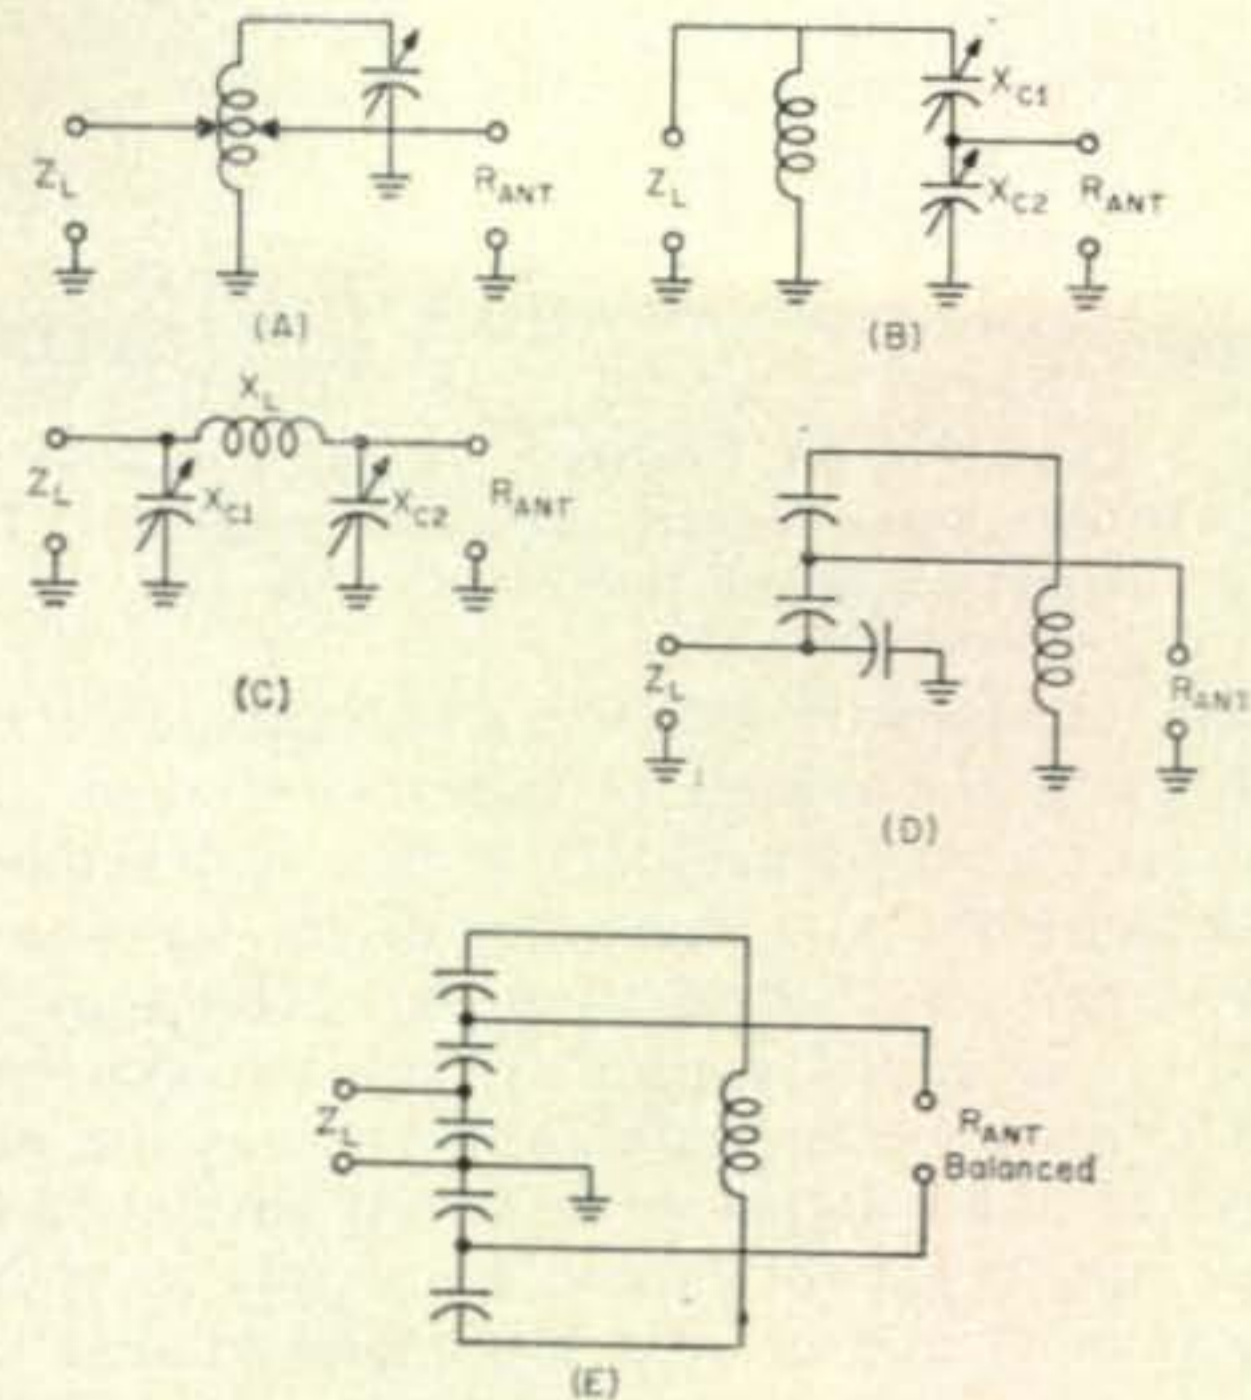

Fig. 2—Various load and impedance transformation circuits described in the text.
Figure 2(A) shows a frequently-encountered method of cancelling antenna reactance. If the load impedance required is not too low, suitable taps on the coil may be found by experimentation. A mathematical solution is not available due to the incomplete and unpredictable flux linkage between the various parts of the coil. Developing the output voltage across an inductive tap has been found to result in higher peaks of voltage than the predicted maximum of twice the d.c. supply voltage; so for transistors with their rigorous voltage limitations, this circuit requires caution. Connecting the antenna
For harmonic attenuation, fig. 2(B) may be used. It is called capacitive antenna coupling and offers a better waveform, but has the mechanical disadvantage of requiring insulation of the tuning capacitor's rotor. By simply reversing the antenna and ground terminals, so that the circuit common point is at the junction of the two capacitors, this circuit becomes the familiar pi-network shown in fig. 2(C)—widely used in modern vacuum-tube amplifiers. Unfortunately, the pi-network requires the same reactance value as a parallel-resonant tank—values impractical for transistors at high power levels. A tap on the coil, as in fig. 2(A) might be used, but with the same disadvantages as outlined previously.
With circuits such as those in fig. 2(D) and 2(E), the problem begins to look discouraging. Figure 2(D) brings up the insulation problem again, and 2(E) shows this system feeding a balanced load. Consider what a balanced (push-pull) generator feeding a balanced transmission line would look like.
6—To determine X_{c1} , (in ohms) of fig. 2(C):